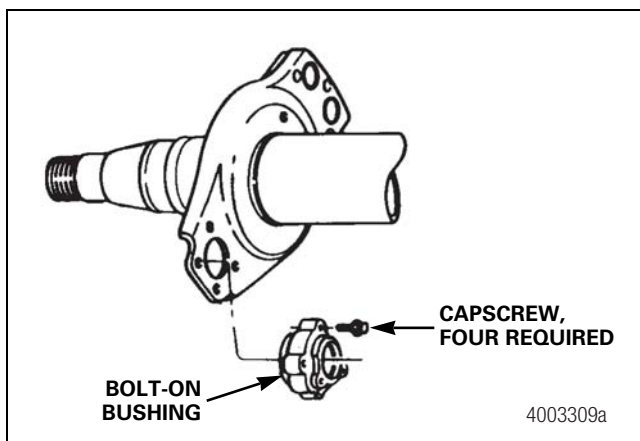

Figure 12.8
- A bolt-on bushing can only be installed onto the stamped spider with four holes. Figure 12.8.